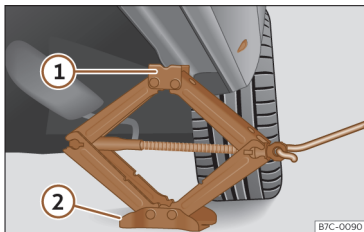

Fig. 44 Cross member: positioning the jack on the vehicle.
- Turn the jack crank handle, located below the strut support point, to raise it until the tab ① >>> Fig. 44 is below the housing provided.
- Align the jack so that tab ① “grips” onto the housing provided on the strut and the mobile base ② is resting on the ground. The base plate ② should fall vertically with respect to the support point ①.